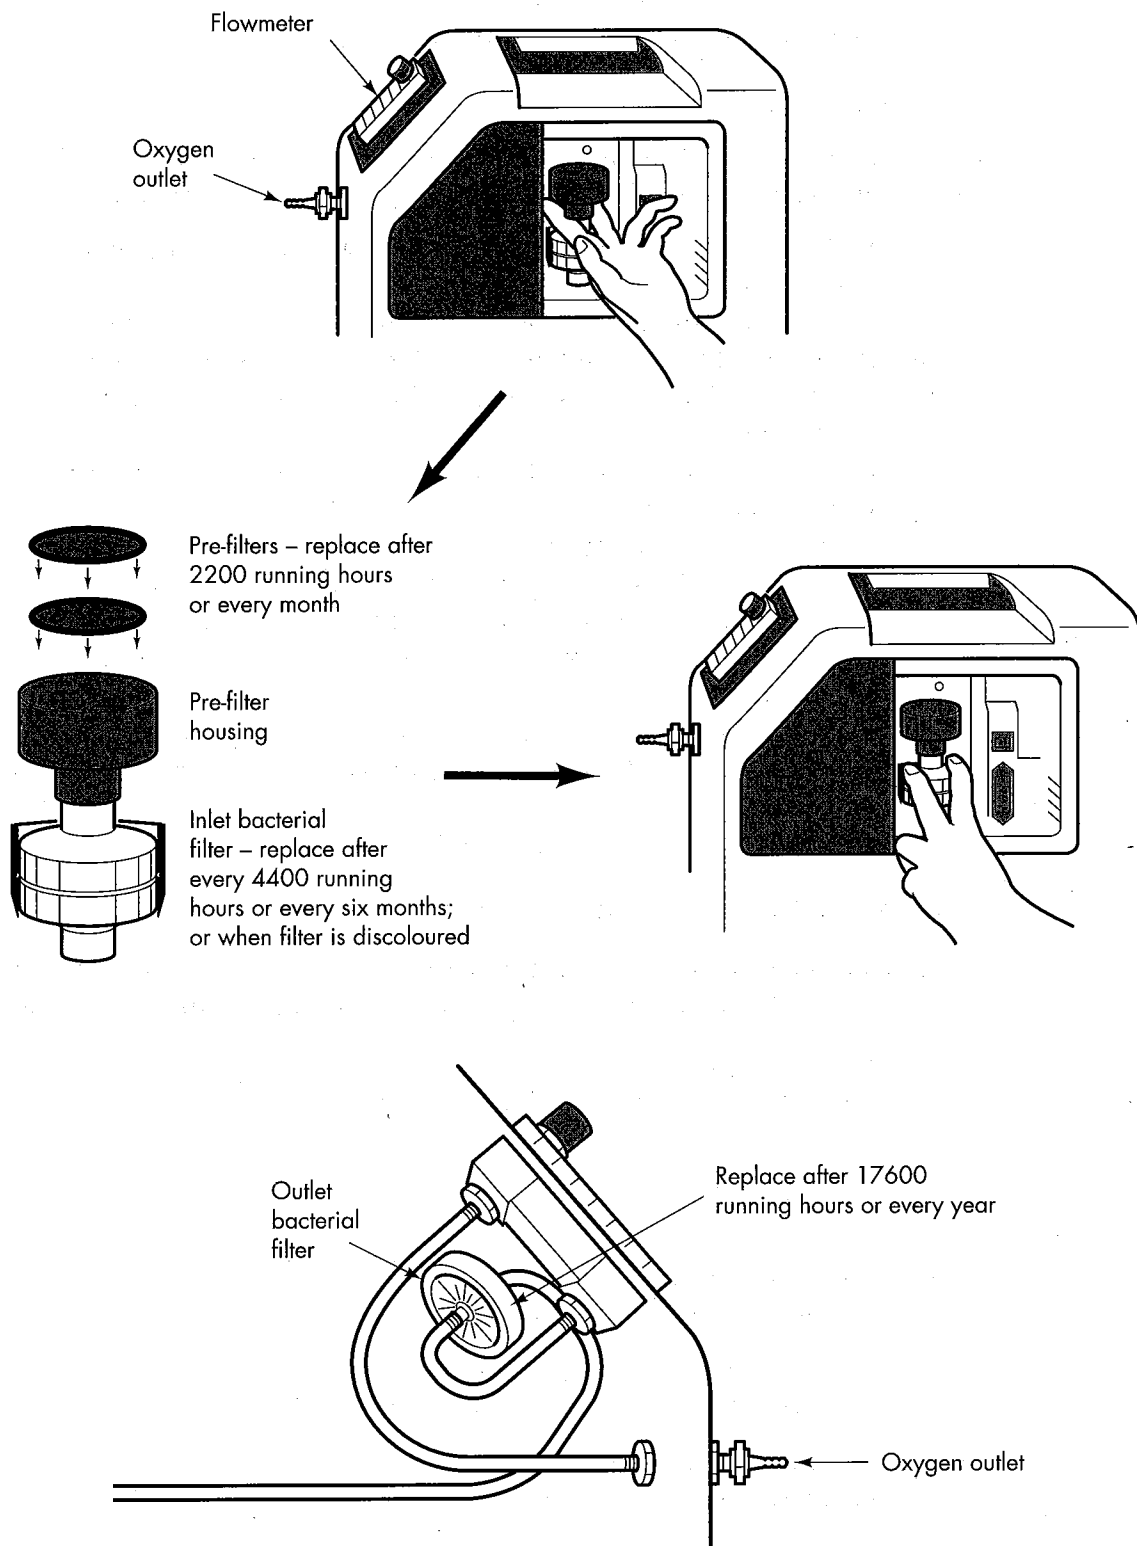

Figure 19: Typical appearance and layout of secondary filters
- return equipment to maintenance workshop for general overhaul and a change of secondary filters (Figure 19)